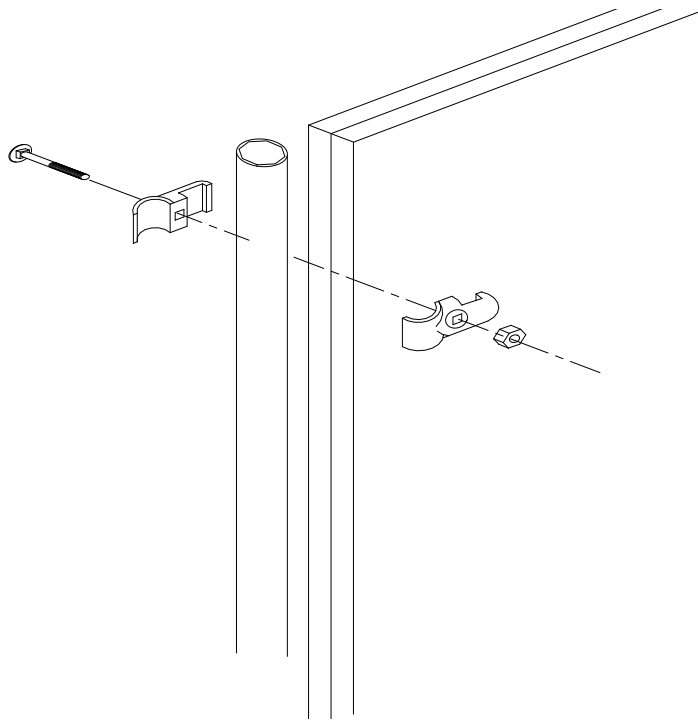

Figure 11
- Attach the filler pipes to the front end of each division panel with two square-round clamps (it takes two halves to make up one clamp) approximately 6" from either end of the filler pipe using the 5/16" x 1-3/4" carriage bolts and 5/16" nuts provided as shown in Figure 11.